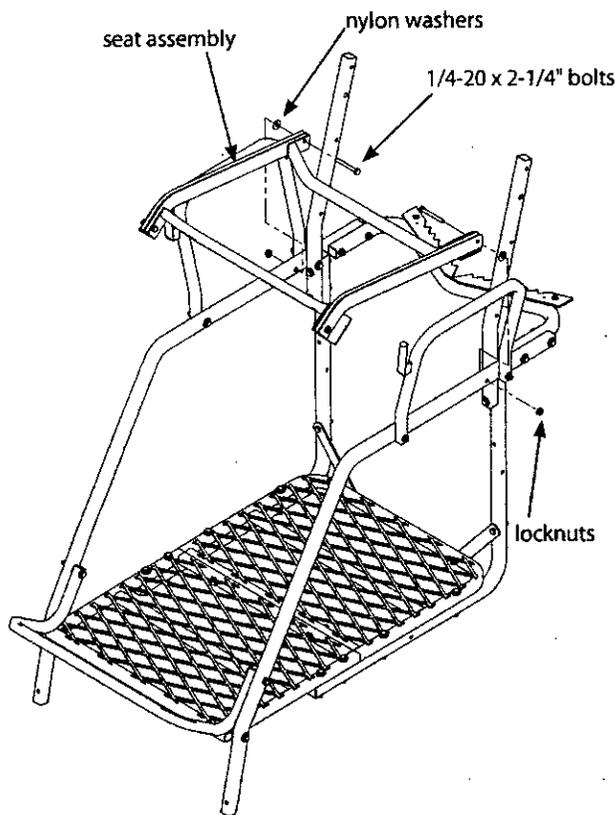

Figure 7
- Remove the locknuts from the (2) 1/4-20 x 2-1/4" bolts that were previously attached to the rear of the seat assembly. Continue by attaching the assembled seat assembly to the ladder side rails using (2) provided 1/4-20 x 2-1/4" bolts, locknuts and nylon washers. **SEE FIGURE 7.** **Make sure all (4) angle brackets are fully cradling fabric rails.**